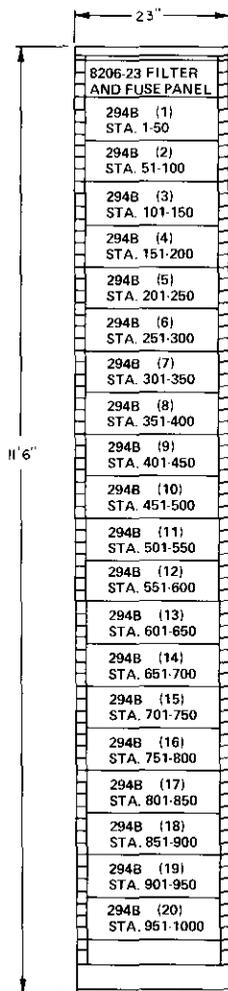

figure 8. Typical 1000-line relay-rack-mounted 294 System
2.36 Larger 294 Systems are made up of additional 50-station increments (each of which makes up a basic 294 System) plus appropriate ringing generators and power supply. Figure 8 shows the equipment layout of a typical 1000-line 294 System with an 8206-23 Filter and Fuse Panel (minus the power supply, backup battery pack, recording device, and System Control Enclosure).